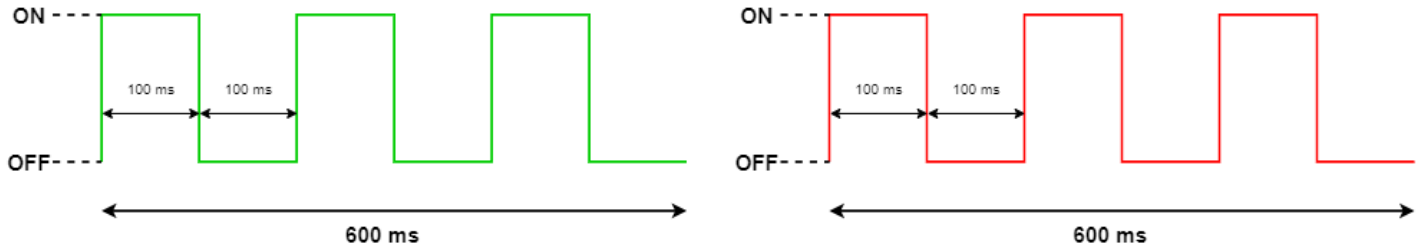

Figure 3-2: The GREEN POST Pass (left) and RED POST Failure (right) LED Patterns
- a) If the POST passes, **GREEN** is toggled ON and OFF 3 times, every 100 ms for 0.6 s, as shown in Figure 3-2. In this case, the LED pattern proceeds to step 4.
- b) If the POST fails, **RED** is toggled ON and OFF 3 times: every 100 ms for 0.6 s, as shown in Figure 3-2. In this case, the device restarts and the LED pattern begins again at step 1 after approximately 4 s.